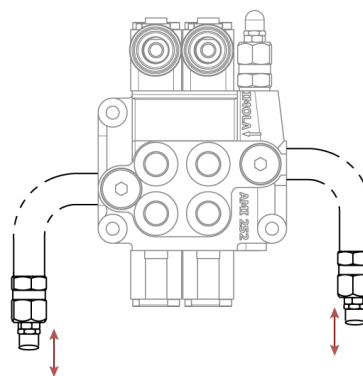

Fig. 26c
- 2) Connect the two hydraulic connections on the sides of the diverter to the tractor (Fig. 26c).